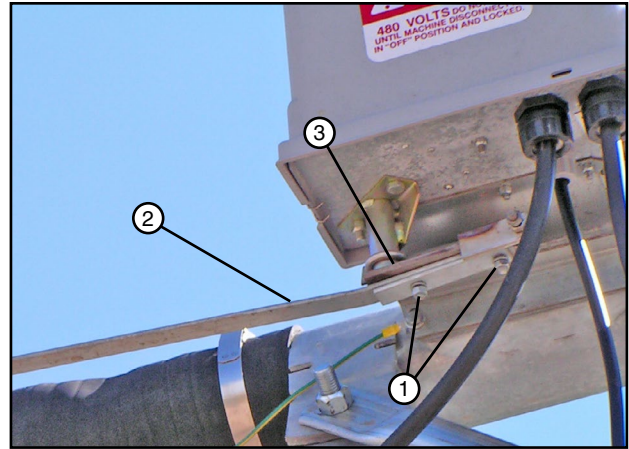

Figure 51-1 1. Hardware
1. Loosen the hardware securing control bar to the switch pivot arm. See figures 51-1 and 51-2.
2. Adjust the jam nuts clockwise or counter-clockwise no more than 1/4 of a turn at one time. See figures 51-1 and 51-2, and the adjustment chart figure 51-3.